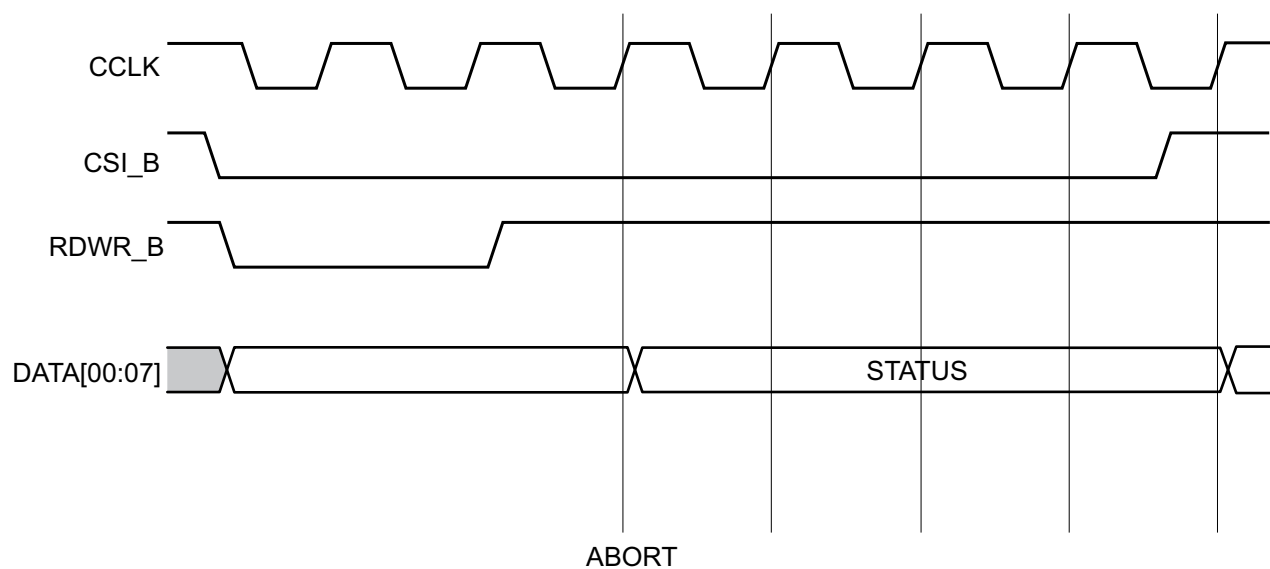

Figure 2-9: Configuration Abort Sequence for SelectMAP Modes
4. The ABORT lasts for four clock cycles, and Status is updated. See Figure 2-9.